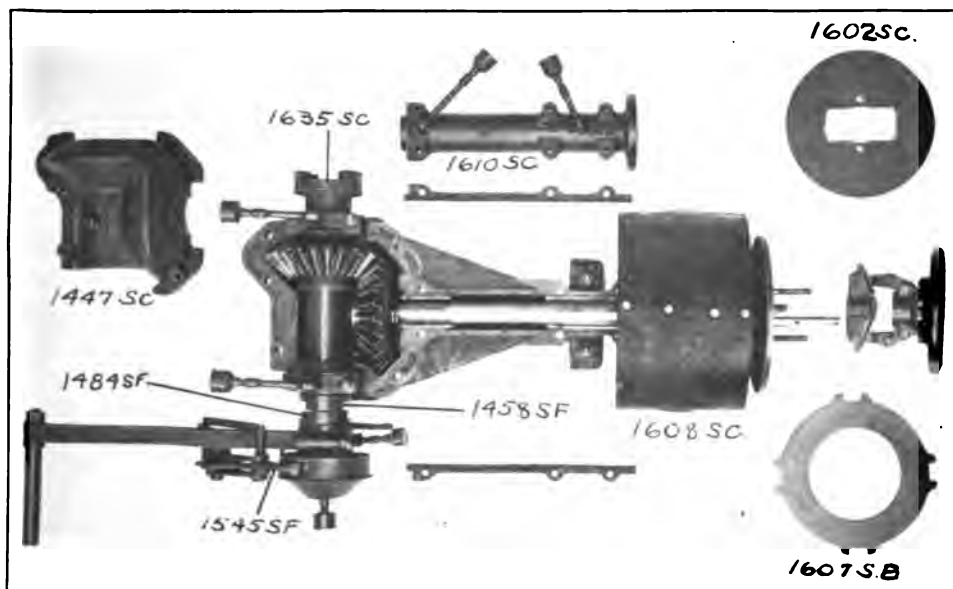

Fig. 35
- 233 — Fig. 35 shows the view of the starting and stationary pulley assembly.
- 235** — *For straight running the stationary pulley assembly is never engaged.* Only when stationary work is wanted should the stationary pulley assembly be placed in gear. The stationary pulley assembly is out of gear when the condition exists that is shown in Fig. 35—that is, clutch 1484SF is not engaged with the clutch 1458SF.
To facilitate engaging the two clutches to put the stationary pulley assembly into gear, shove the clutch of the stationary pulley shown at the extreme right of Fig. 35 to "in" position, then revolve the stationary pulley assembly by grasping the stationary pulley by the two hands and revolving till the two clutches are in the proper position to mesh.